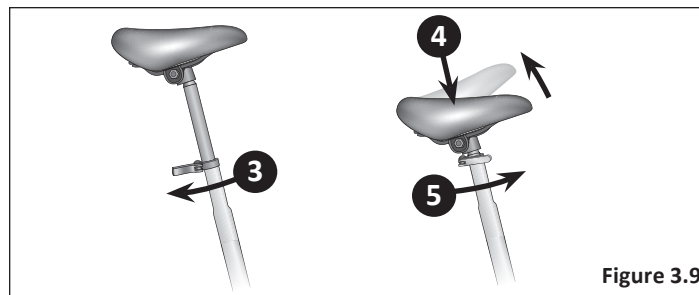

Figure 3.9
- 3 Next, unlock the seat post quick-release lever. **Figure 3.9**